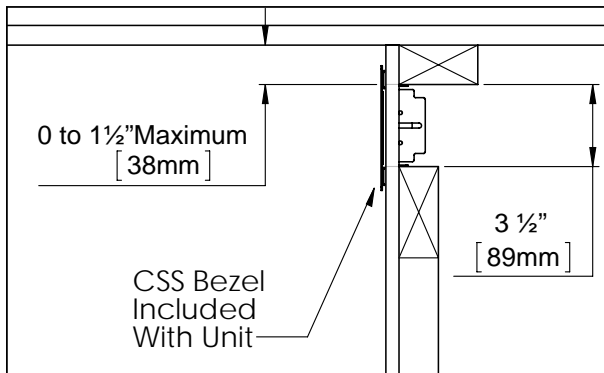
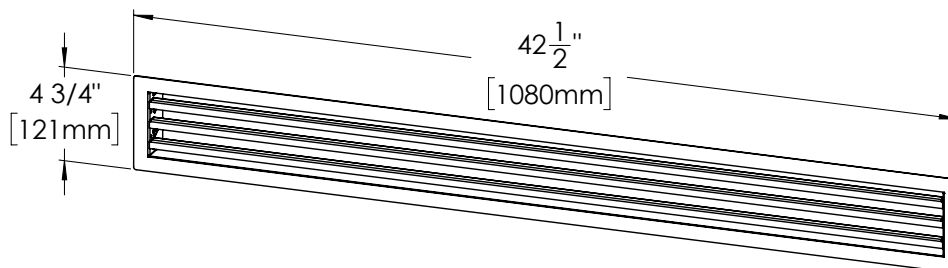

Figure 44: Option 2 Front Bezel
Figure 45: Front Bezel Iso View
**Option 2: Front Bezel** - The included bezel may be desired to accentuate the front discharge (figure 45). This installation will also cover the edge of the finishing material at the cutout. The top of the cutout cannot be more than 1 1/2" from the top of the chase (figure 44). It is essential that these dimensions are followed and not to deviated from them when using combustible materials inside the chase.